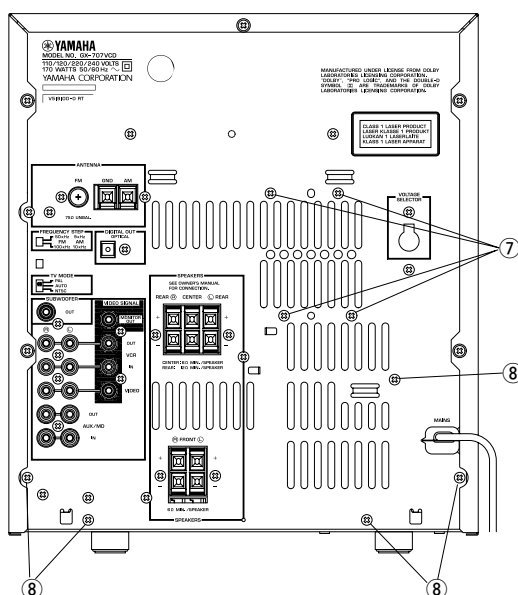

Fig. 6
6. Operation Check of Main P.C.B. (1)
- Remove 4 screws (⑦) and then remove the Fan in Fig. 6.
- Remove 5 screws (⑧) in Fig. 6.